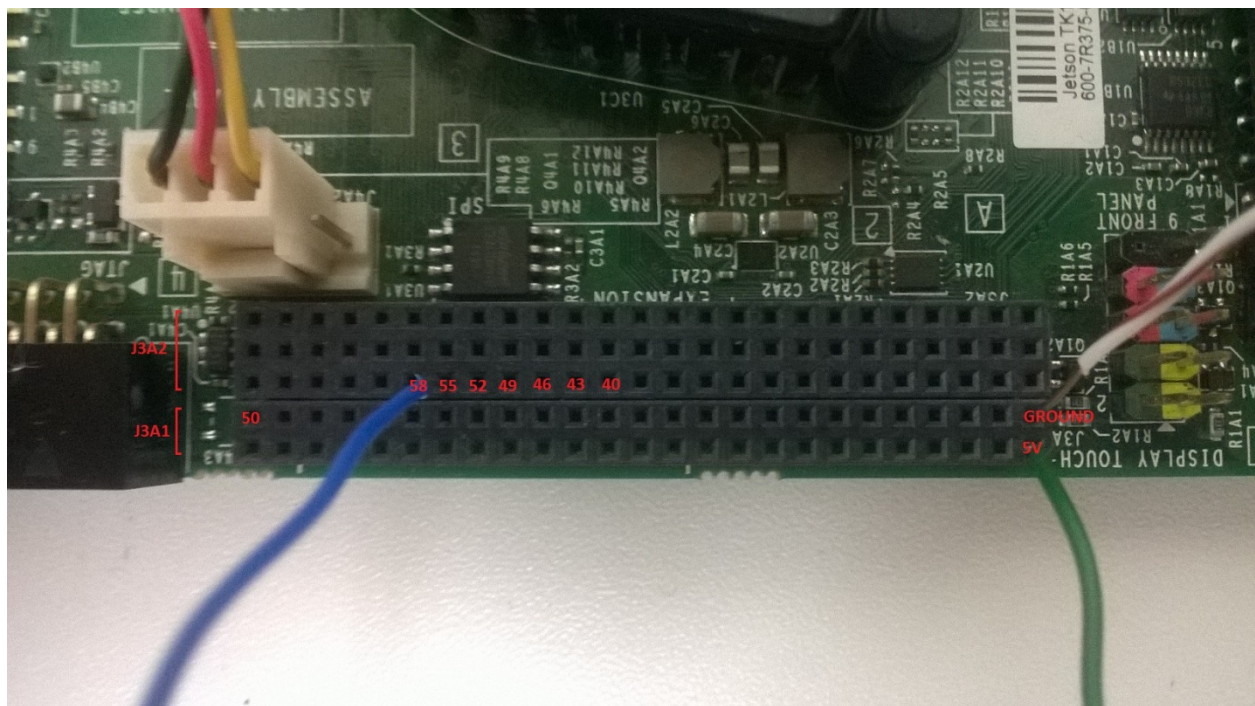

Figure 1: The Jetson TK1 ports
**3) Send a signal in a GPIO Jetson TK1 port:** According to <http://elinux.org/Jetson/GPIO> there are lots of ports that can be used as GPIO. In this project, we have used the gpio165 port, which corresponds to the pin 55 into the J3A2 group (see Figure 1).